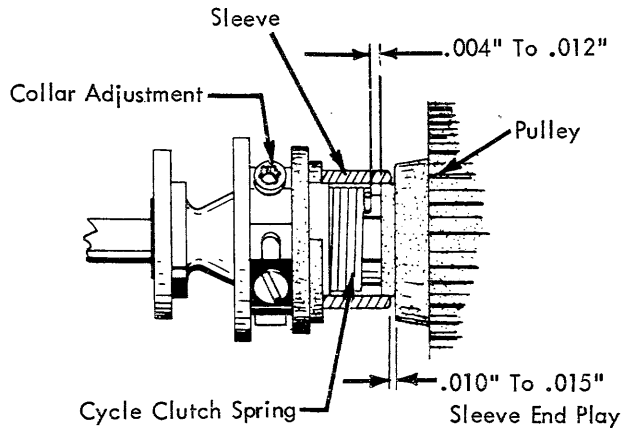

FIGURE 42. Lateral Position of the Cycle Clutch Spring and Collar
a. Lateral position of the spring - Loosen the collar and position the spring left or right on its hubs so that the right hand end of the spring will clear the face of the cycle clutch pulley by .004" to .012" (Fig. 42).